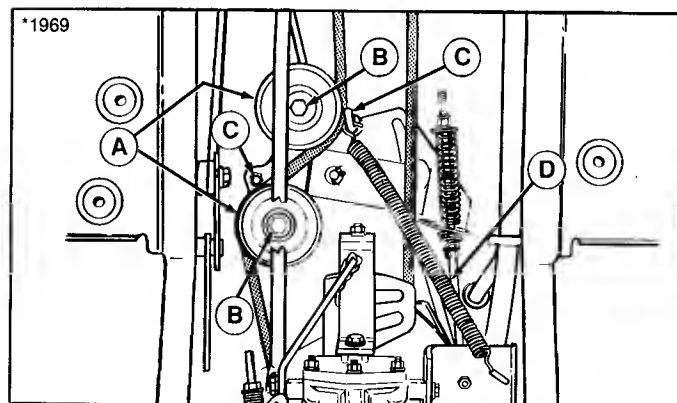

Figure 22.
3. To remove belt from idler pulley (A, figure 22), loosen flange whiz nuts (B) and washers retaining idler pulleys to bracket. Belt will slip from between belt stops (C) and idler bracket.
4. Release parking brake. Rotate idler pulley to relieve spring tension and remove spring (D).
7. On left hand side of tractor, remove nut securing drag link (B) to steering arm (C). Drop old belt below drag link. Route new belt above drag link before reinstalling nut on drag link. Tighten nut.
10. Reinstall idler pulley spring (D, figure 22) to frame with new belt routed between spring and bottom of frame.